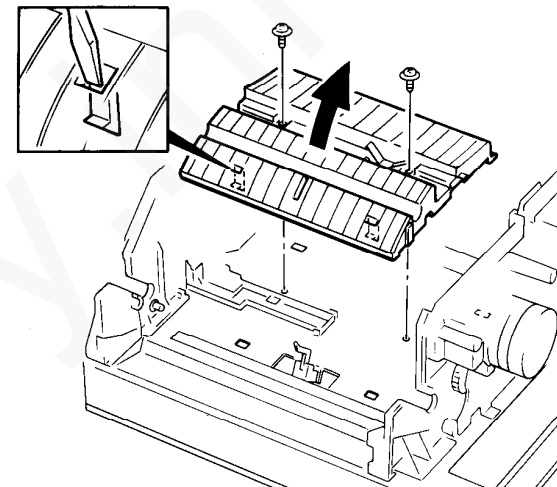

Figure 1. Lower paper guide
13. Release the two locking tabs retaining the lower paper guide to the chassis (figure 1).